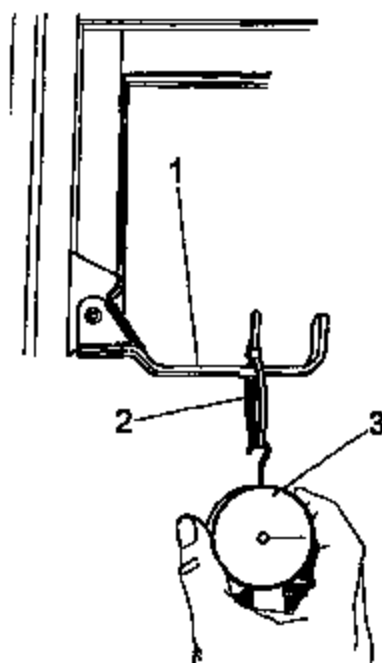

Figure 1-4 Checking Egress Handle Tension
2. Slowly pull the gauge (3) until egress handle (1) releases. See Figure 1-4.